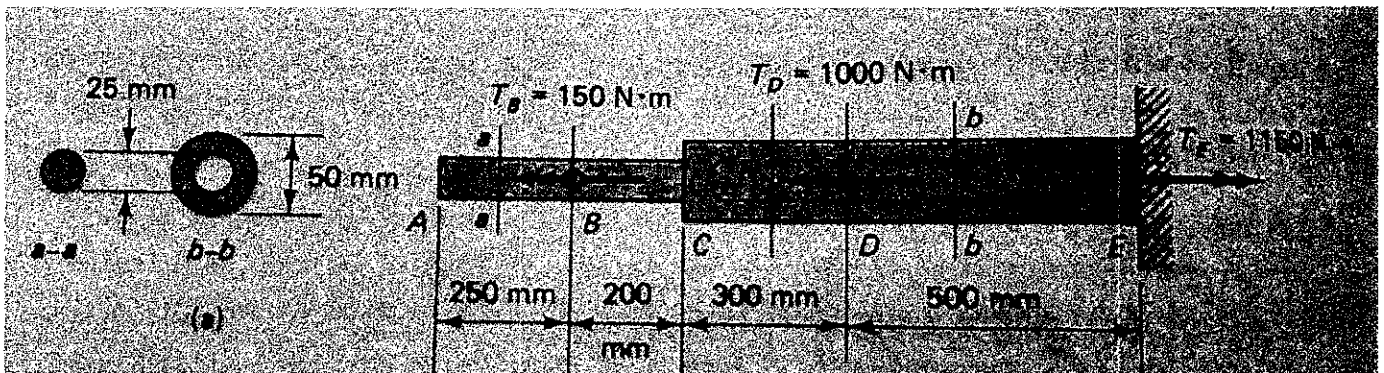

Figure 1
- (15%) Consider the stepped shaft shown in Figure 1 rigidly attached to a wall at E, and determine the angle of twist of the end A when two torques at B and D are applied. Assume the shear modulus G to be 80 GPa.